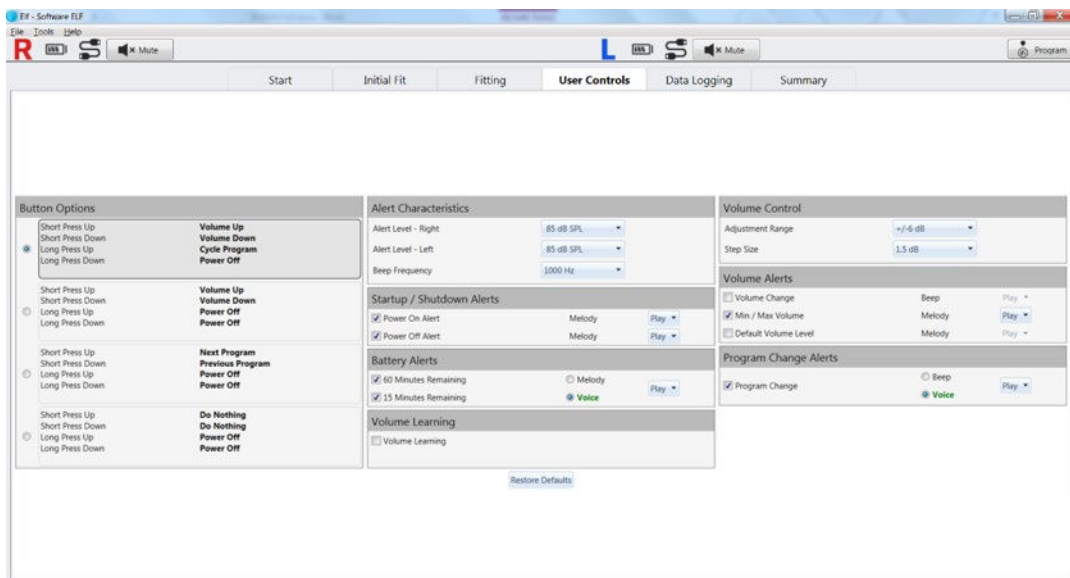

Figure 15: User Controls screen
- *User Controls*: Set the user control configuration on the Processor, customize alert settings and enable Volume Learning (Figure 15).